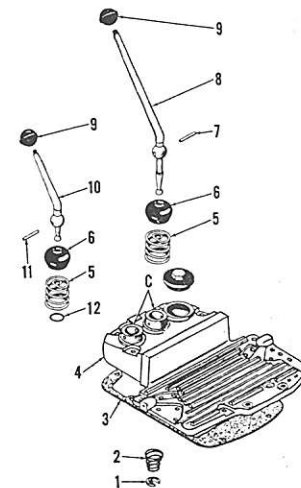

Fig. 210—Exploded view of transmission top cover and shift levers used on Models MF150 and MF165.
176. OVERHAUL. Refer to Fig. 210. To remove either shift lever, compress the spring (2) and unseat and remove the spring seat (1). Pull up the cover (6), drive out the retaining pin (7 or 11); then withdraw shift lever upward out of cover or steering gear housing. Range shift lever (10) contains an "O" ring oil seal (12) which fits against a shoulder in shift lever cup. Shift lever cups (C) are renewable from below in the combined transmission top cover and steering gear housing used on Model MF135, and are machined into cover (4) on other models.